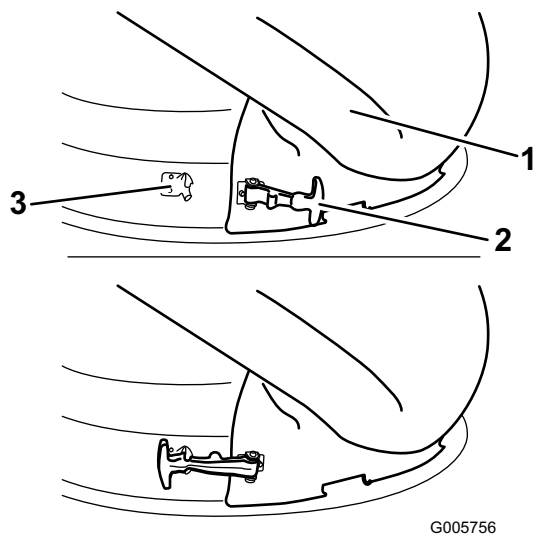

Figure 16
7. Secure the chute to the 50 inch deck. Hook the flexible latch on the chute to the retaining clasp welded on the mower deck to the rear of the opening (Figure 16).